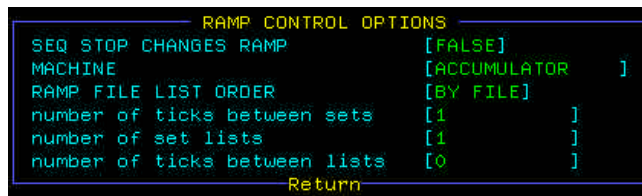

Figure 2 Ramp Control Options window that is opened when interrupting on the OPTIONS button in the upper right of the P170 main page.
**OPTIONS:** Allows changing various options as shown in Figure 2.